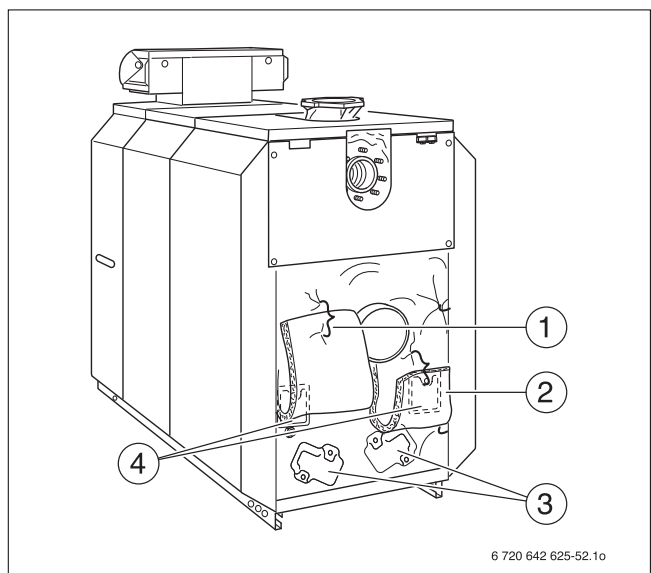

Fig. 61 Removing the cleanout cover
- ▶ Remove debris from the front and the cleanout openings on the rear section and on the draft diverter (→ Fig. 61, page 42).